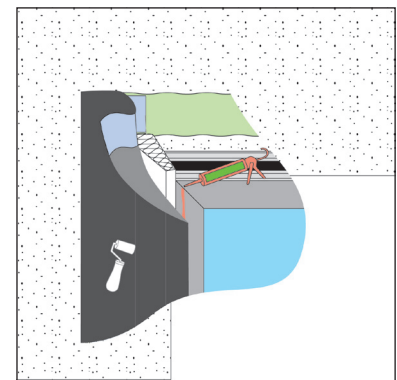

Fig 3: Application of illbruck OT015 Paste Adhesive
- To achieve a quicker, more accurate and economical application, we recommend using illbruck OT015 Paste Adhesive when bonding to non-porous materials (see Fig. 3).